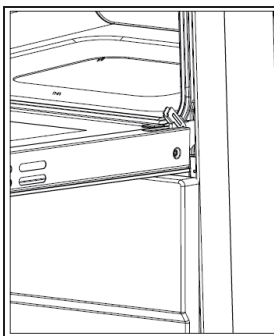

Fig.1
- Open the door to the full extent (fig.1)